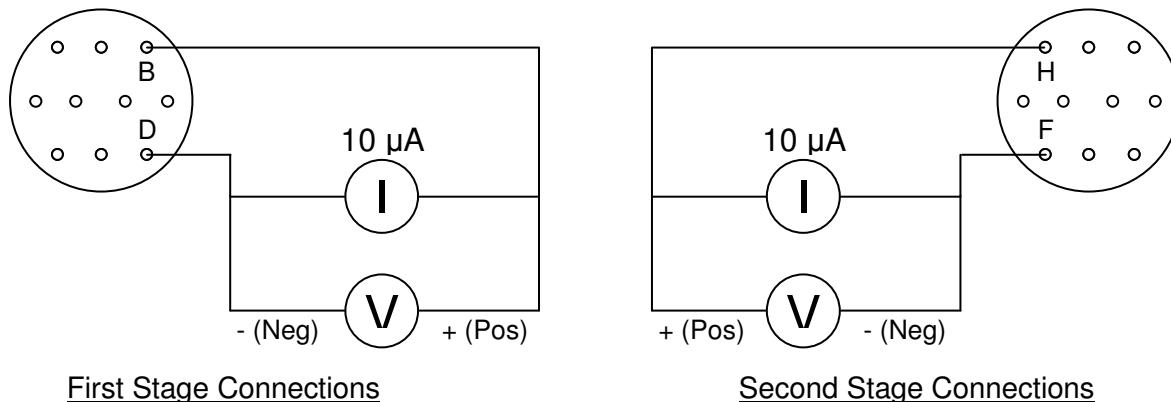

Figure 19 Check the Dual Silicon Diodes
1. Connect the positive side of a 10-microamp DC current source to pin B of the diode connector. Connect the negative side to pin D. See Figure 19.
1. Connect the positive side of a 10-microamp DC current source to pin H of the diode connector. Connect the negative side to pin F. See Figure 19.